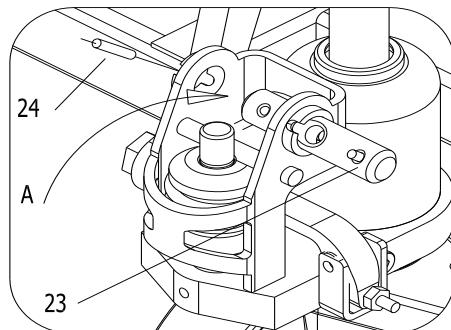

Fig. 1
3.1 Please refer to Fig.1, and pull out the pin shaft 23